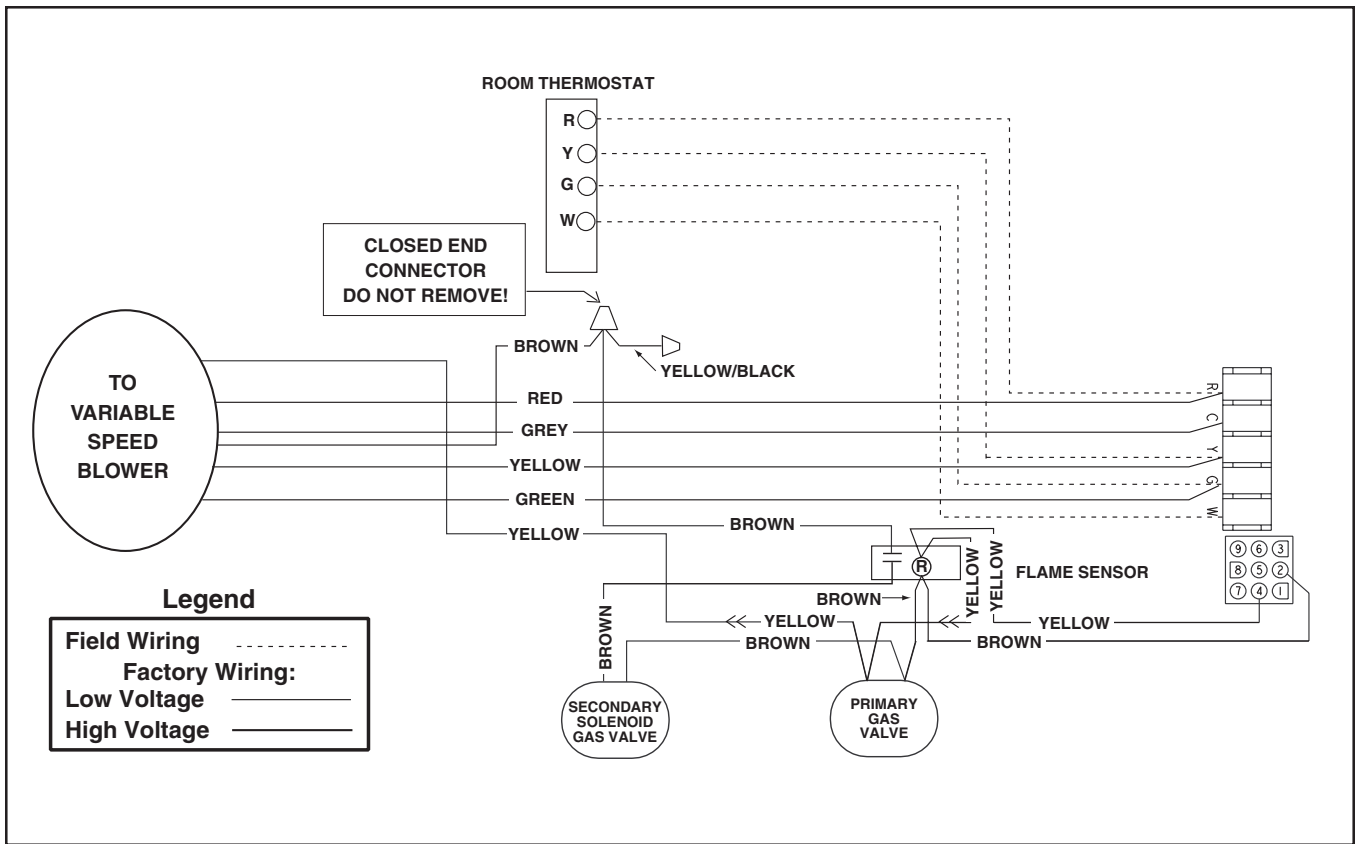

Figure 8c. Low Fire Only Configuration
3. *Low fire only configuration* – For this installation, the secondary gas valve is disconnected (See **Figure 8c**). This defeats the staging feature and the furnace